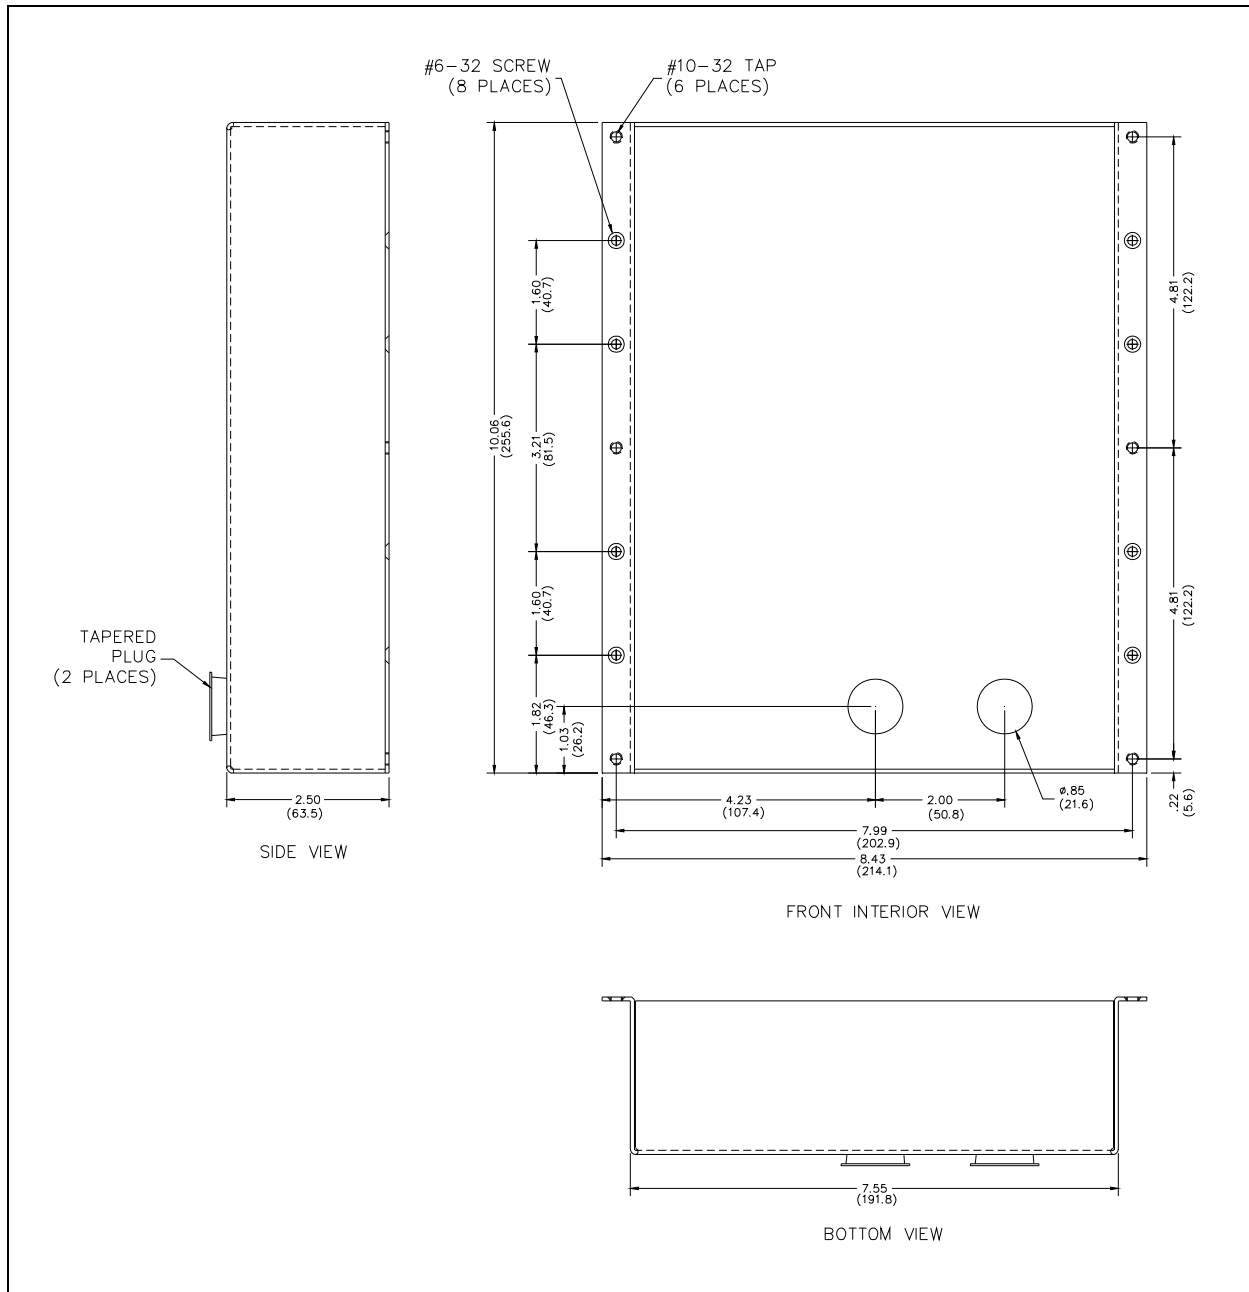

Figure 15. Flush-Mount WiFi VoIP Telephone Back Box Mounting Details
1. Use the supplied back box to mount the Model 397-800A, 397-801A, 398-801A and 398-802A WiFi VoIP Telephones in flush-mount applications or in a GAI-Tronics Model 234 Series Stanchion. Mount the back box to the structure using the appropriate hardware. Refer to Figure 15 for cutout dimensions.